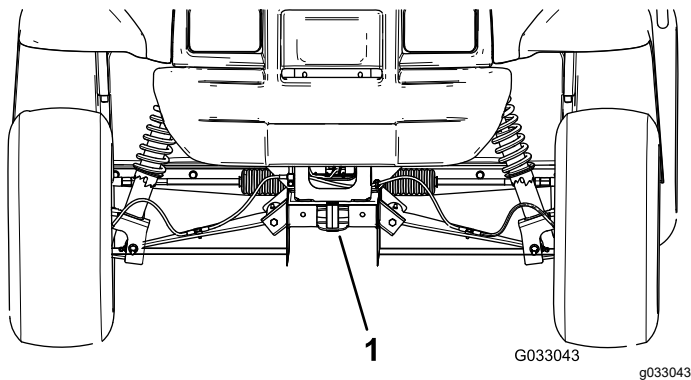

Figure 26
- The lifting point at the front of the machine is located at the front of the frame, behind the towing tongue (Figure 26).